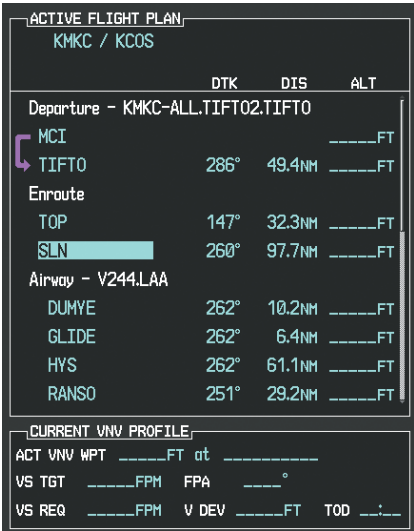

Figure 5-109 TOP Inserted into the Flight Plan
d) Press the **ENT** Key. TOP is inserted into the flight plan as in Figure 5-109.
e) With SLN still highlighted as in Figure 5-109, turn the small **FMS** Knob clockwise. The Waypoint Information Page is displayed and the **LD AIRWY** Softkey is now available.